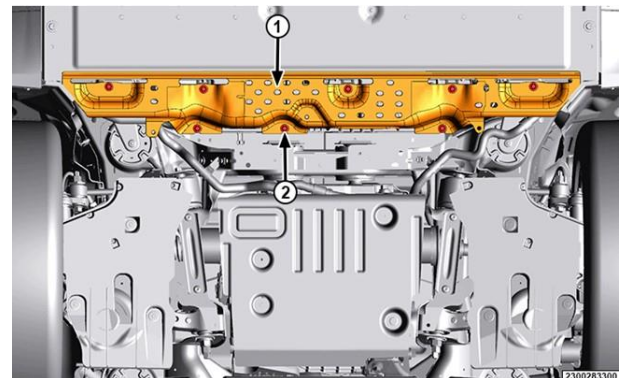

Figure 17 – Rear Battery Shield
37. Remove the five bolts from the forward edge of the battery shield and loosen the three bolts along the rear edge of the battery shield (Figure 17).
38. Remove the rear battery shield from the vehicle (Figure 17).